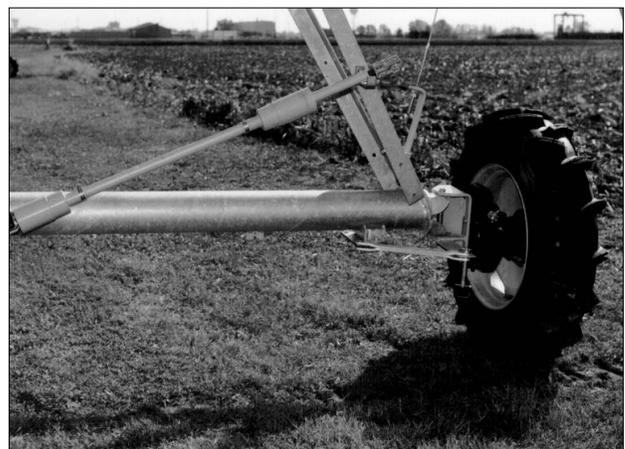

Figure 35-3 TOWING POSITION SHOWN
10. Lower the drive unit and remove the jack. The tire is now in the tow position. See Figure 35-3.